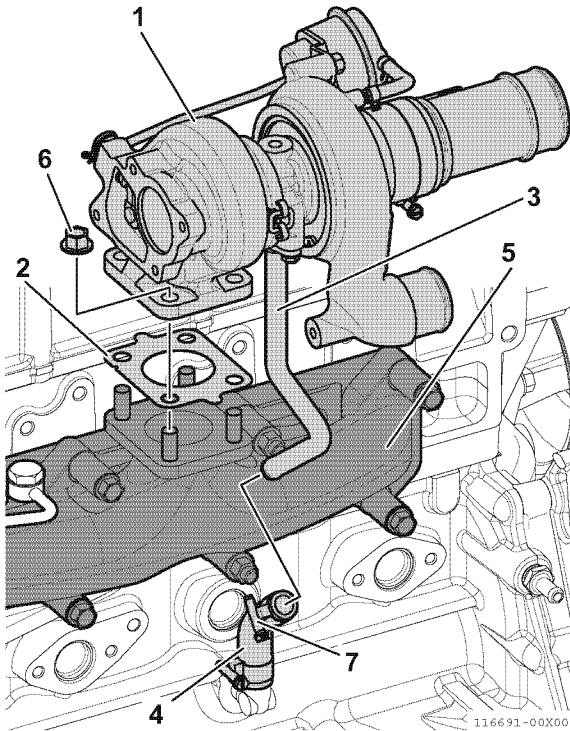

Fig.24-23
1. Before installing the turbocharger (1, Fig.24-23), pour 60 cc (2 oz) of clean lubricating oil in the oil inlet port at the top of the turbocharger. Rotate the compressor wheel to ensure the shaft bearings are lubricated.
2. Install the new gasket (2, Fig.24-23) on the exhaust manifold side, then insert the lubricating oil return pipe (3, Fig.24-23) into the hose (4, Fig.24-23) and install the turbocharger onto the exhaust manifold (5, Fig.24-23).
4. Install the mounting nuts (6, Fig.24-23) and tighten to the specified torque. See 0000-07-03-01 "Standard Torque".
5. Tighten the lubricating oil return hose bands (7, Fig.24-23) to the specified torque.